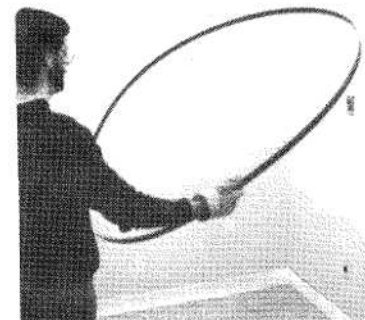

FIGURE B-1. BLADE COILING STEP #1.
1. See Figure B-1. Raise the blade in front of you, with the teeth pointed upward. (About 1/3 to 1/4 of the blade should be between your hands.) Hold your hands about shoulder-width apart. Place your thumbs on the outside of the blade and your fingers on the inside of the blade. Squeeze the blade inward, making it oval-shaped.